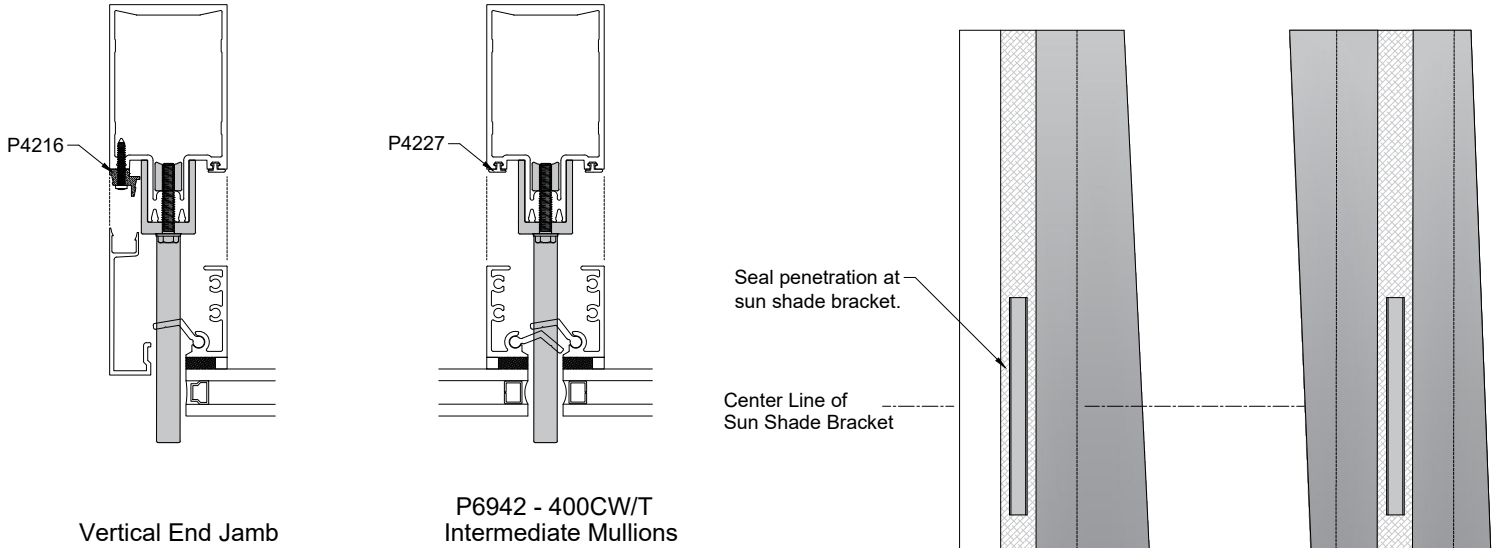

FIG. 13.1
- 3) Verify perimeter trim closure receiver P4216 and backer gasket P4227 have been installed. Fig. 13.1.